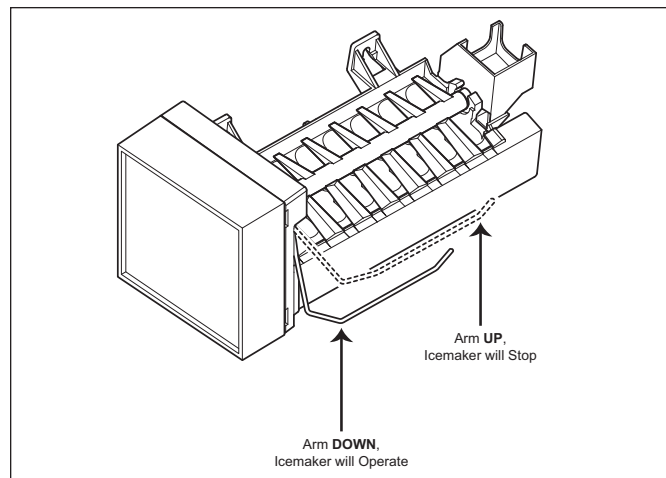

Figure 6-18. Stopping Icemaker
3. Position the ice-level/shut-off arm in the up/OFF position (See Figure 6-18).